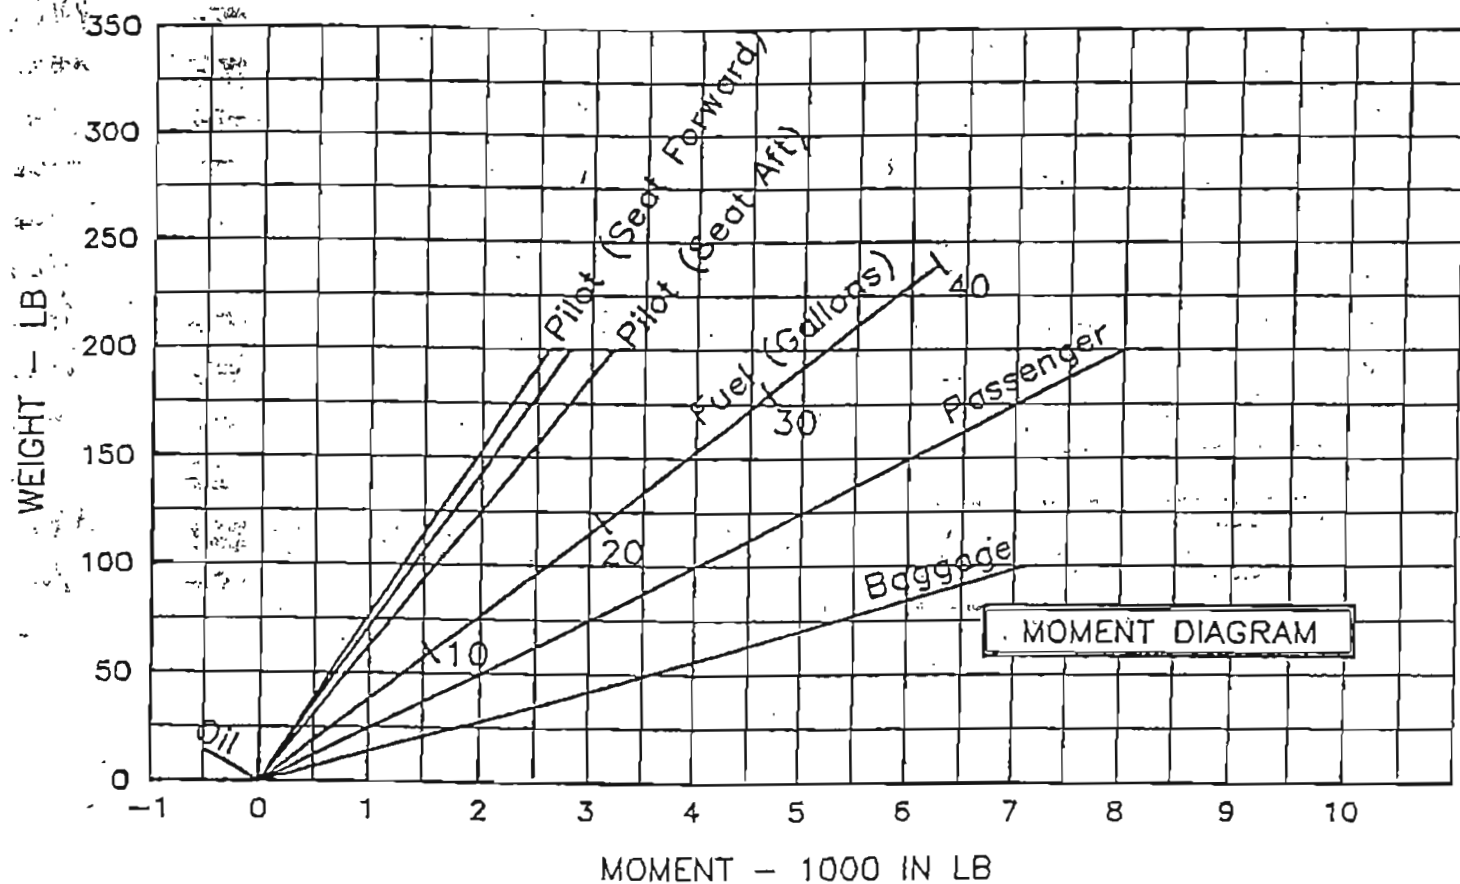

FIGURE 5-2 LOADING GRAPH
3. Using the Loading Graph, Figure 5-2, determine the weight and the moment of the following items and enter these figures on the Sample Loading Problem.
- 1) Use Figure 5-2 loading graph to determine moment.